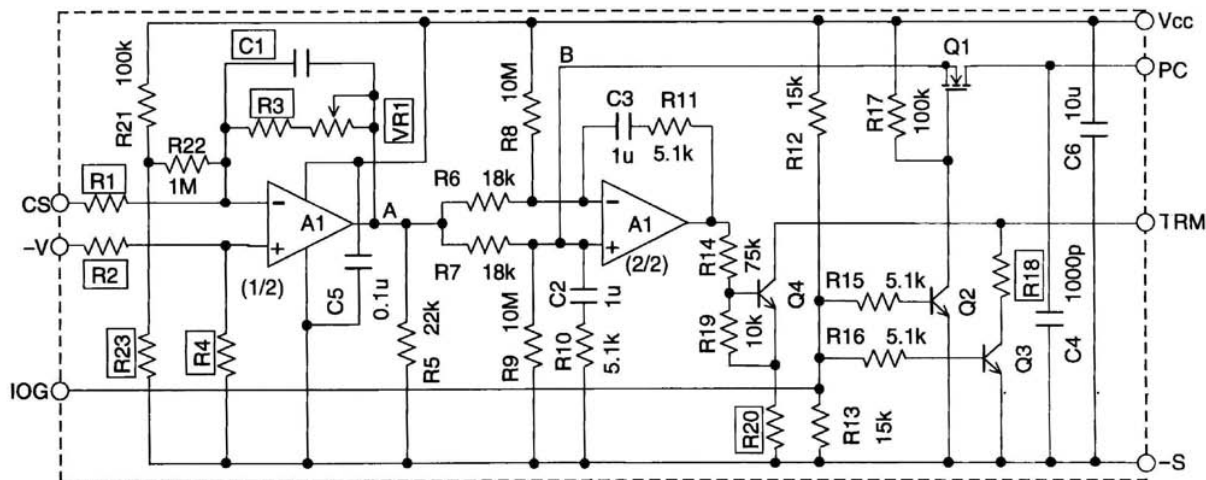

Figure3-2 Control Circuit for Parallel Operation
Basic circuit connection is shown in Figure3-1. For control circuit of parallel operation, individually connect a circuit shown in Figure3-2 to each PH300S, 600S series of power module of parallel operation.
(2) Terminal Explanation of Figure3-2
For CS terminal voltage is a small voltage in negative polarity, Op-Amp A1 (1/2) is amplifier inverting shown as Figure3-2. For all of PH modules to be in parallel operation, VR1 shall be adjusted to equalize with the voltage at A point at full load. Setting voltage of A point is 3V to 5V, and the setting accuracy is within ±2%. Voltage adjustment of A point can be adjusted with PC terminal of open circuit.
For choosing capacitor(s), refer to values expressed in Figure3-2 and values for each component shown in Table3-2. Use film capacitor or ceramic capacitor which has good temperature characteristics.
For choosing capacitor(s), refer to values expressed in Figure3-2 and values for each component shown in Table3-2. The tolerance shall be less than $\pm 5\%$.